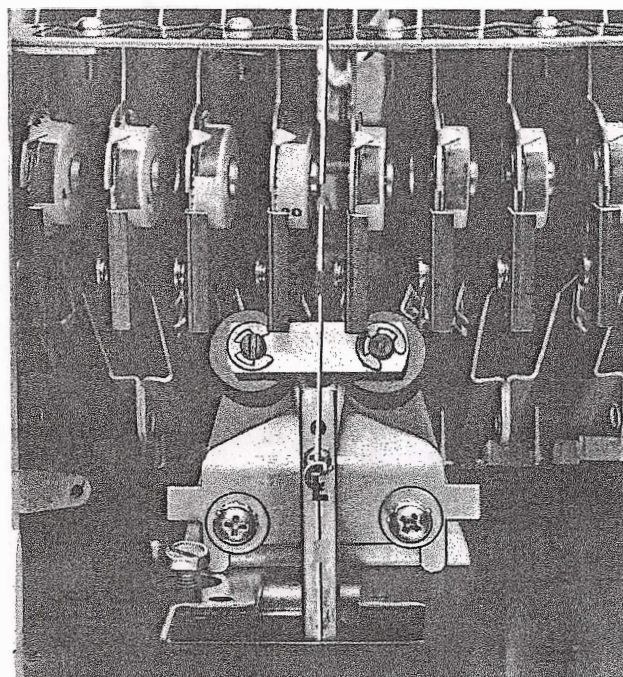
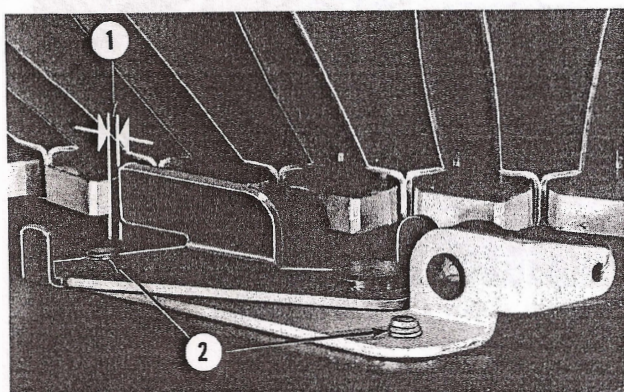
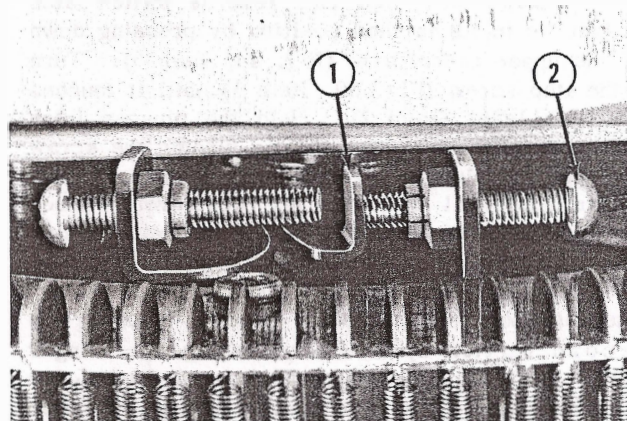
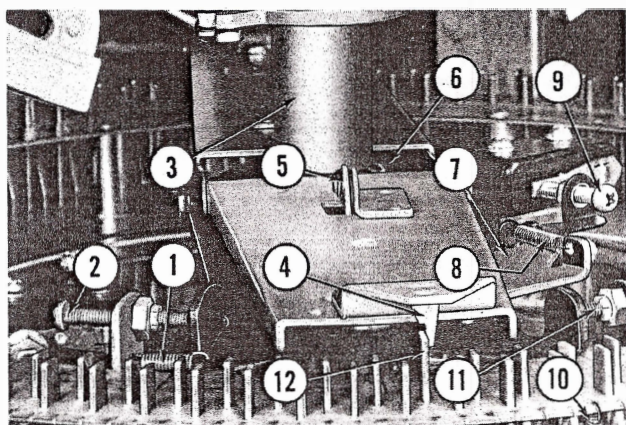

Fig. 54. CENTER LINE FOR BACK STOP PAWL SETTING
Fig. 58. BACK STOP PAWL OVER-TRAVEL
Fig. 59. PLUNGER RELEASE, ACTUATING SCREW ADJUSTMENT
Fig. 64. STOP SCREW ADJUSTMENT, SELECTOR CRANK
- (1) Slightly loosen the two mounting screws (Fig. 58, Item 2).
(2) Turn the record carrier slowly until the center line of one of the record compartments is in accurate alignment with the left hand record lift arm as shown in Figure 54. Carefully maintain this condition of alignment and set the left hand back stop pawl to engage with the adjacent tooth of the index wheel. The depth of engagement should be 1/32" to 1/16" as shown in Figure 58. Tighten the mounting screws. Alignment of the record compartments with the record lift arms must be kept within a tolerance of 1/32".
(5) Adjust the actuating screw (Fig. 59, Item 2) so that the plunger latch releases the reversing switch plunger when the correct tooth, as selected, has overtraveled the back stop pawl a distance of  $1/16''$  to  $3/32''$  (Fig. 58, Item 1).
(1) Proceed as on the 2404 by turning the service switch OFF, release an odd number (inner) selector pin, rotate the record carrier until the selector crank arm engages the released pin (Fig. 64, Items 4 & 12). As viewed from the rear, manually turn the changer motor shaft clockwise until the reversing relay is heard to operate, at which point the right hand back stop pawl at the rear of the chassis mounting plate should have just dropped into engagement with a tooth on the index wheel. Allow overtravel of  $1/32''$  maximum (Fig. 58, Item
The stopscrew serves to prevent momentum from driving the record carrier into the wrong selection. Check the setting of the stop screw (Fig. 64, Item 11) by releasing an inner pin and rotating the record carrier manually until the reverse relay is heard to operate. Continue by turning the changer motor shaft clockwise until the stop screw (Item 8) is resting against the tab of the stop bracket. At this point there should be  $1/16''$  to  $3/32''$  maximum overtravel between the back stop pawl and the tooth of the index wheel (Fig. 58, Item 1).